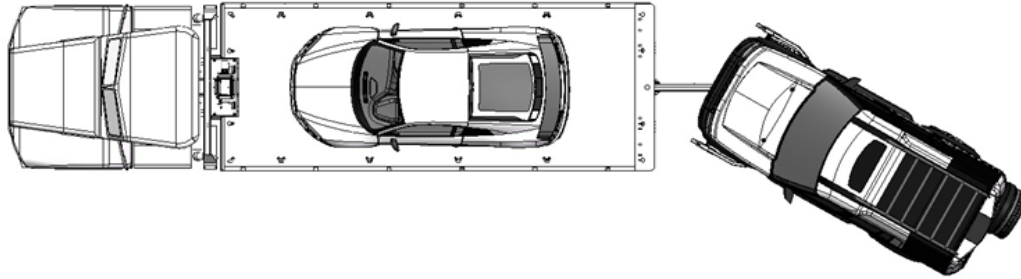

FIGURE 45 – LEAVE ROOM FOR TURNING
8. Use the wheel lift extension to adjust the distance between the truck and the towed vehicle. Check that there is enough room between the towed vehicle and the truck for turning, as indicated in Figure 45.